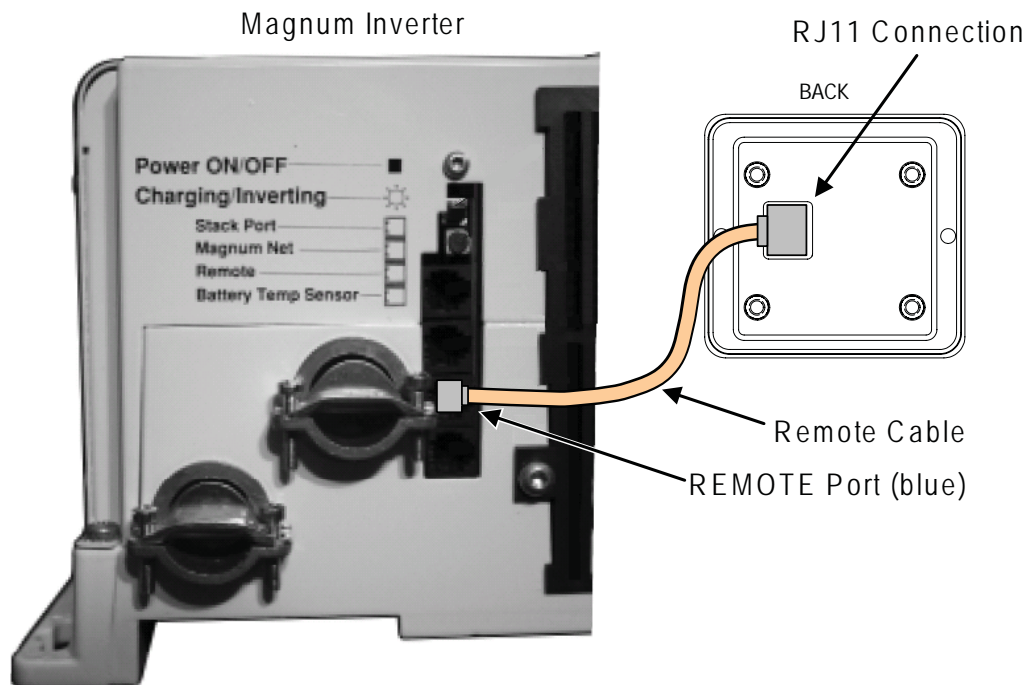

Figure 2-3, Remote Control Connections
4. Connect the remote cable into the RJ11 "Remote" port (has blue label) on the inverter/charger (see figure 2-3).
6. While monitoring the front of the remote, connect the other end of the cable into the RJ11 jack on the back-side of the remote (see figure 2-3).